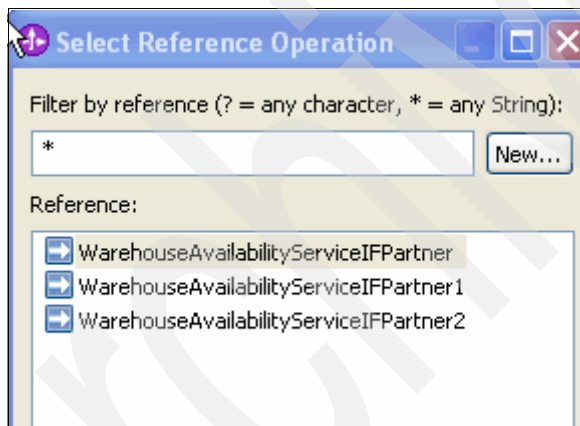

Figure 6-46 First service invocation against first partner, Warehouse A Web service
4. Drag a Service Invoke primitive from the Palette (Routing section), and place it to the upper right of the Fan Out Warehouse Web Services. As you release the mouse, you are prompted for the Reference to be bound to this service invoke. Select **WarehouseAvailabilityServiceIFPartner** as shown in Figure 6-46.